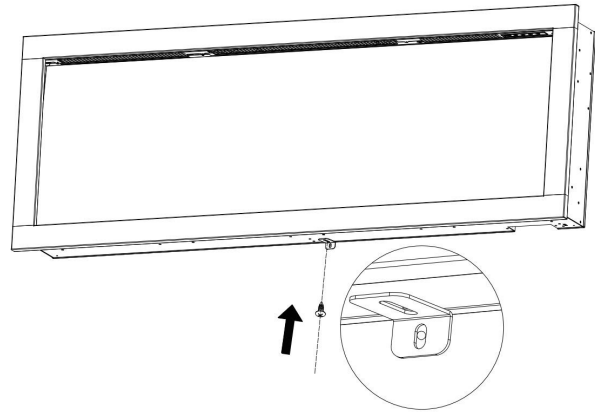

Fig 4-2
B. Using the screw previously removed, attach the L-bracket (supplied) to the bottom of the fireplace box. (Fig 4-2)